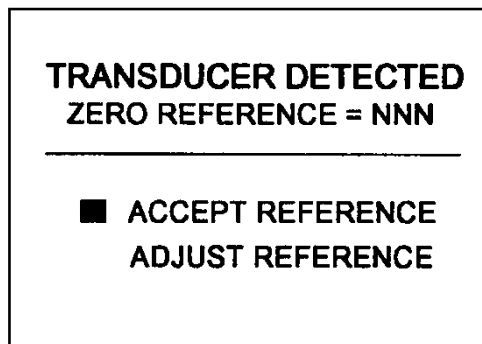

Figure 18
13.7.7 Verify that the DUT displays the message "TRANSDUCER DETECTED ZERO REFERENCE = NNN / ACCEPT REFERENCE ADJUST REFERENCE", per Figure 18. Verify that the value NNN = 500. Record values.